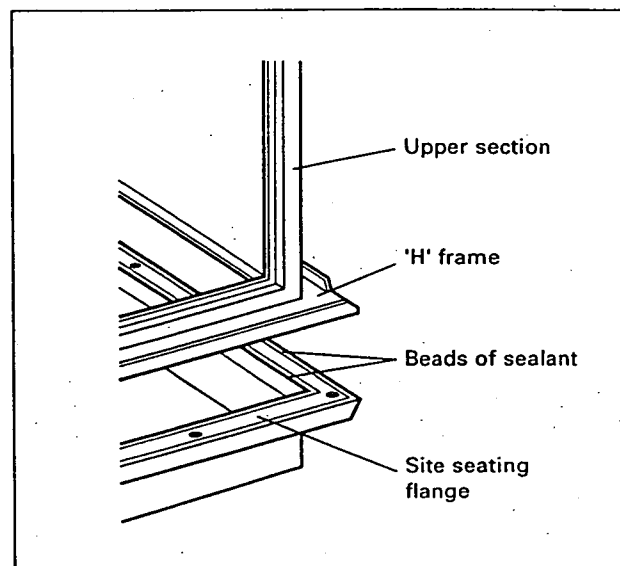

Fig. 12 Applying sealant to site seating flange
- 1 Using the sealant provided, apply two beads of sealant to the site seating flange, one each side of the fixing holes, as shown in Fig. 12.